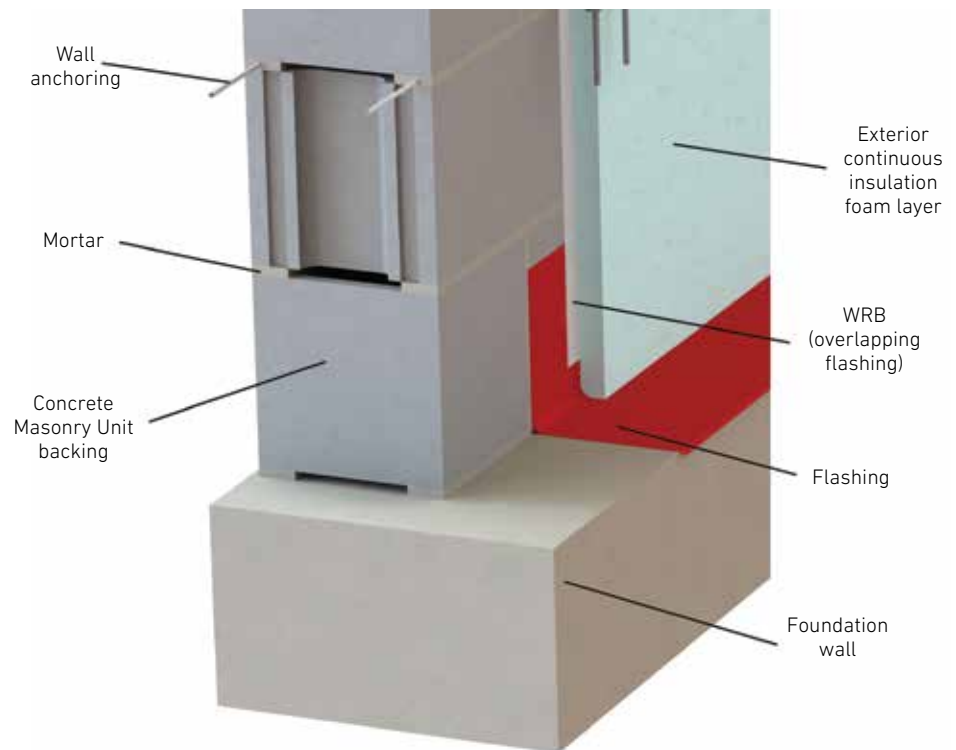

Figure 1. WRB layer overlapping flashing
- Be applied over the sheathing on both vertical and horizontal portions of the wall (see Figure 1)
The WRB should be installed starting at the bottom of the wall, overlapping the flashing and working upward. The WRB should overlap horizontally 2” to 4” and vertically a minimum of 6” in shingle fashion. Inside and outside corners must be overlapped a minimum of 16”. It is very important to wrap all corners with WRB layer and to overlap this on the flashing previously installed, as shown in Figure 1.